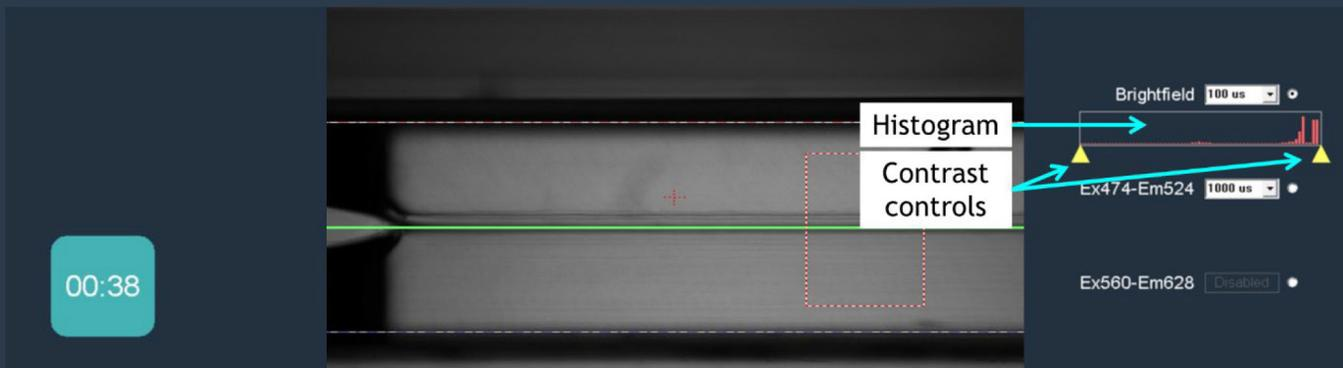

Figure 12.
- Experiment Manager allows for the user to set exposure times and contrast settings for each optical illumination type. Please see Figure 12 for a description of how to change these settings. It is also possible that fluorescently stained cells have not been sufficiently stained. Please see previous section “General Guidelines for Live/Dead Cell Staining” for suggested staining protocols.